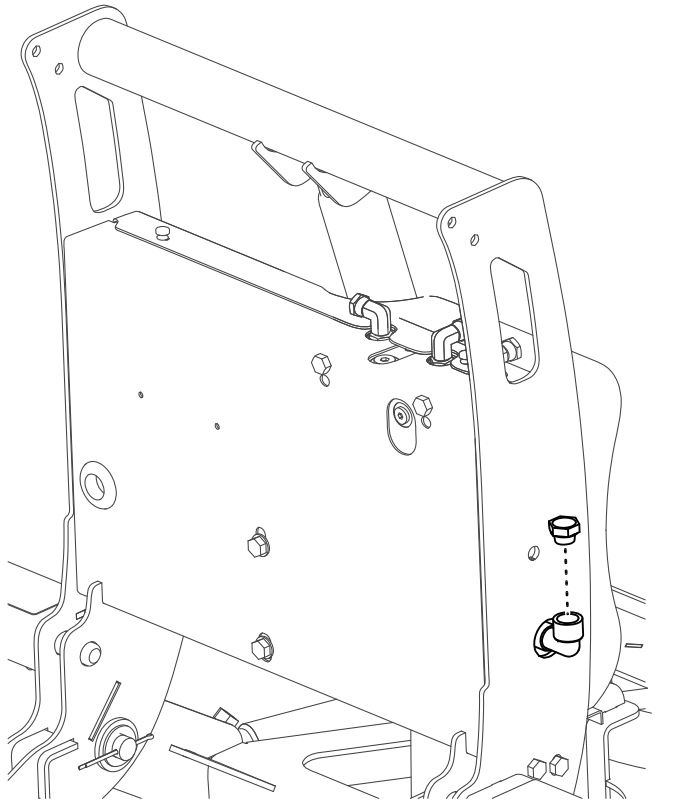

Figure 28
2. Clean the area around the fill cap (Figure 28).
3. Remove the fill cap from the hydraulic reservoir (Figure 28).